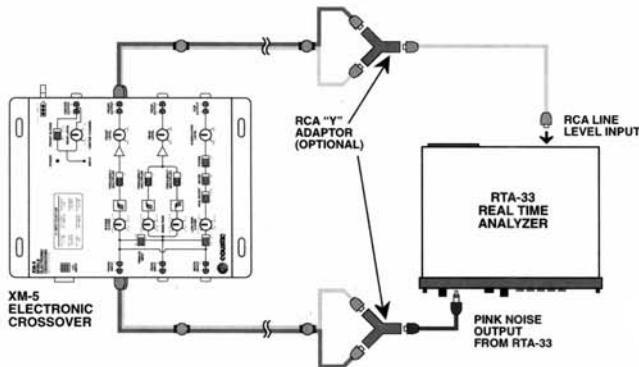

Figure 20. Frequency Response Measurement of an Electronic Crossover.
1. Refer to Figure 20 and repeat steps 1-13 as described under section "Frequency Response Measurement of an Electronic Crossover."